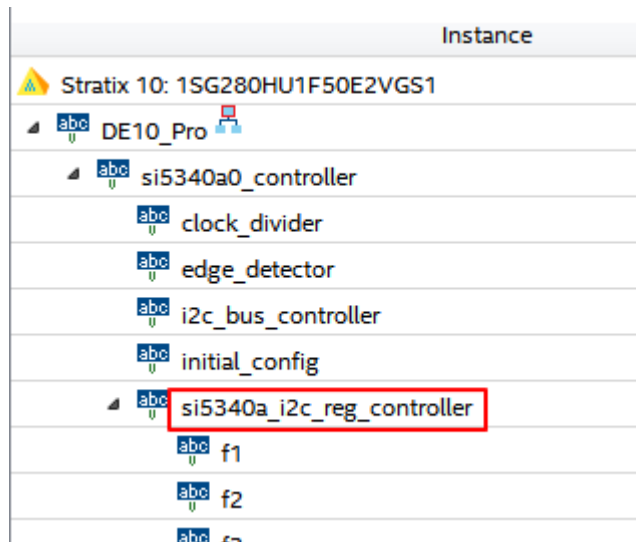

Figure 5-6 Sub-Module file "si5340a_i2c_reg_controller.v"
4. Open Si5340 control IP sub-module "si5340a_i2c_reg_controller.v " as shown in **Figure 5-6**, refer to Design Report parameter to modify sub-module corresponding register value (See **Figure 5-7**).